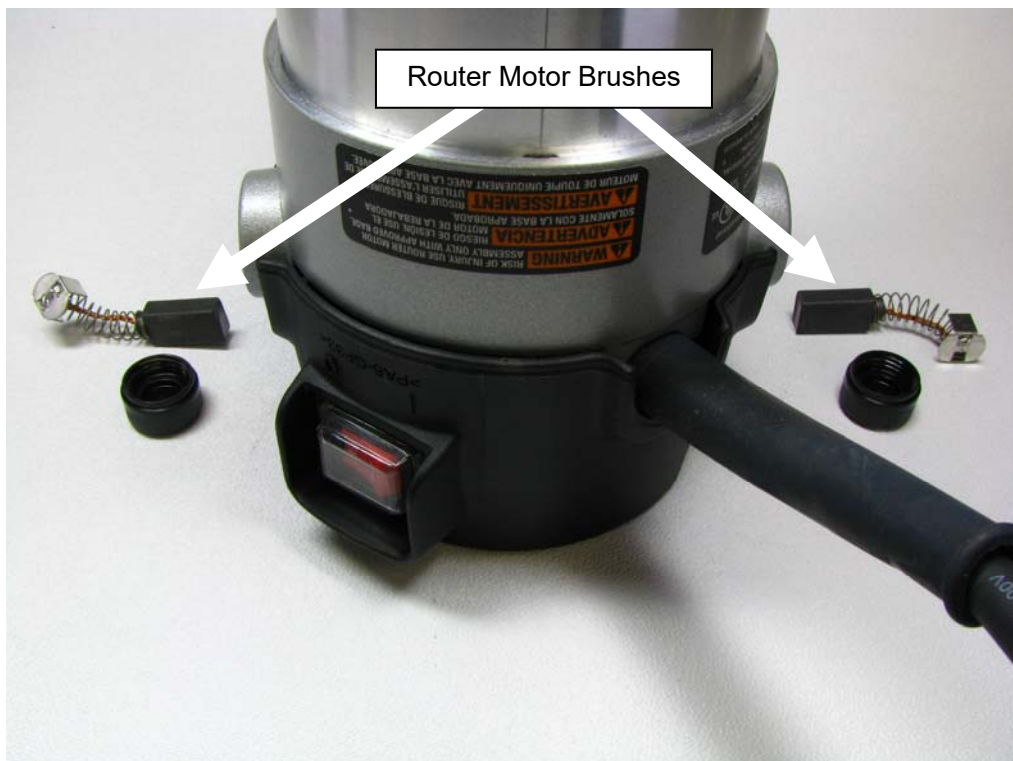

Fig 8
4. The Router Motor has two electrical brushes that should be periodically replaced. **See Fig 8.**